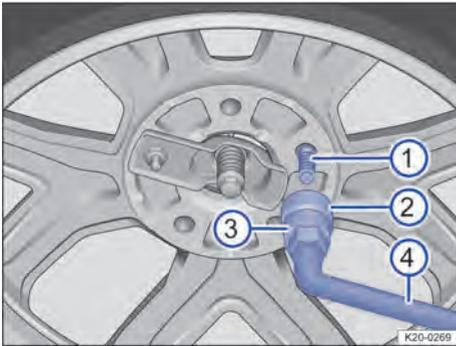

Fig. 212 Install the anti-theft device
2. Push the socket wrench onto the square head screw ①.
6. Check that the threaded pin → Fig. 212 ① is inserted into the hole for the wheel bolts.
1. Manually turn the security nut → Fig. 212 ② clockwise with the anti-theft device adapter → Fig. 212 ③ from the tool box onto the threaded pin → Fig. 212 ①.
2. Insert the anti-theft device adapter ③ and the wheel key ④ into the safety nut.
3. Tighten the safety nut with the wheel wrench ④.